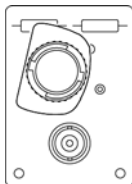

Figure 32 Signal to +Input
- 7 Connect the adapter/probe combination to the test board in the position shown in Figure 32.